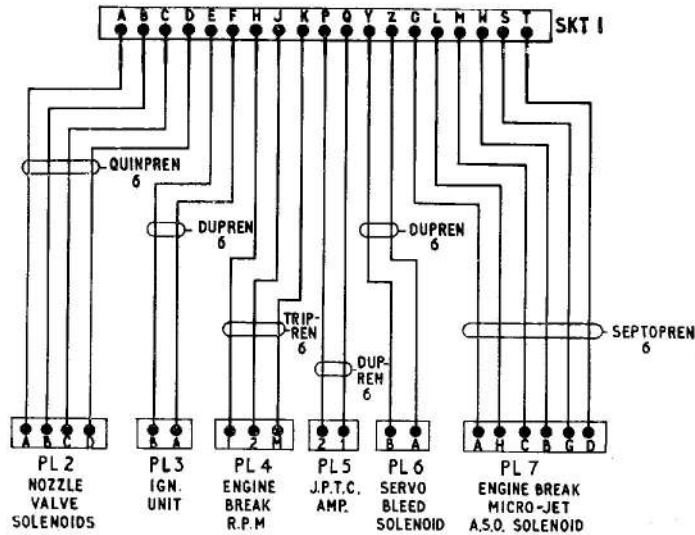
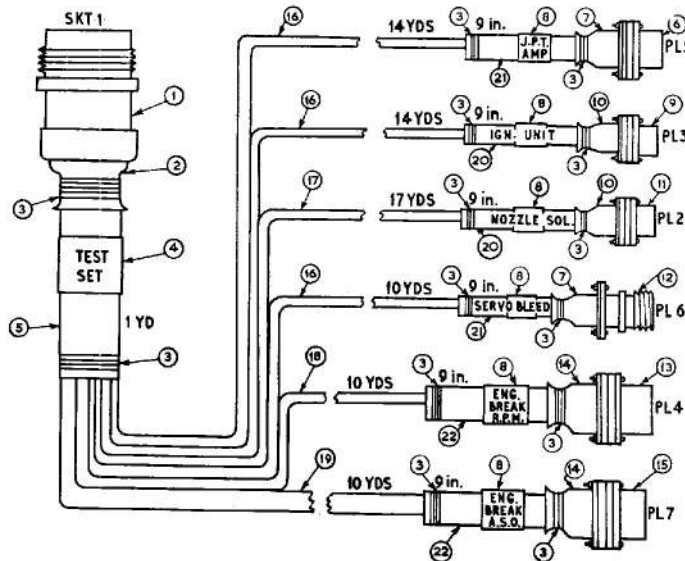

Fig. 6. Wiring diagram of test lead
Fig. 7. Details of test lead
5. The test lead is made up of presheath cables and terminates in breeze plugs at one end to facilitate connection to the aircraft components, and a breeze socket at the other end to connect with the input socket on the front panel. A wiring diagram for the lead is shown in fig. 6 and fig. 7 shows the dimensions and components of the lead. The lead is stowed in a fabric case (*fig. 8*) fitted with carrying handles and a zip fastener.
10. Fig. 7 gives details of assembly and dimensions of the test lead and the following sequence should be adhered to:—
(1) Cut the presheath cables to the dimensions shown and prepare the cable ends.
(2) Fit the synthetic tubing, cable markers and ferrules.
(3) Connect the breeze plugs and sockets as shown in the wiring diagram (fig. 6).
(4) Bind the ends, using braided cord, and shellac the cord.
Material required for test lead (*fig. 7*)